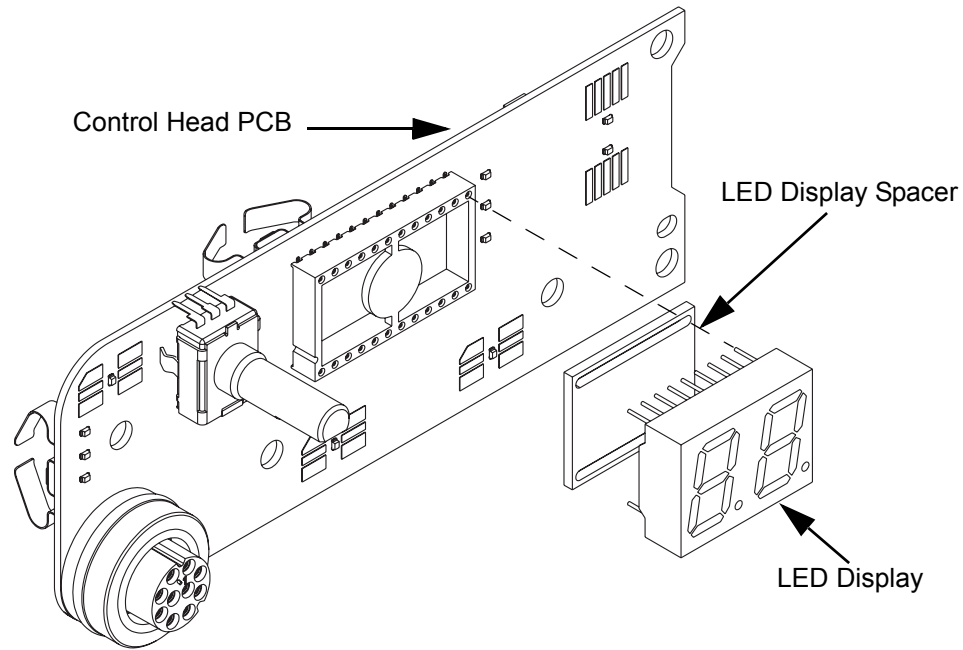

Figure 5-37 LED Display Assembly
- b. Assemble the LED display spacer and LED display to the control head PCB as shown in Figure 5-37.